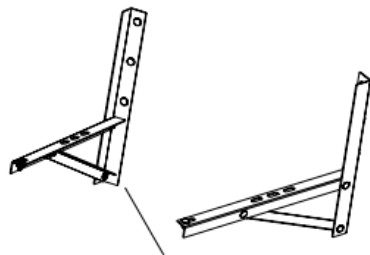

Fig 10 Installation support
- If installation brackets for installing outdoor unit are needed, user could buy the brackets from our company or agents (Fig.10) .